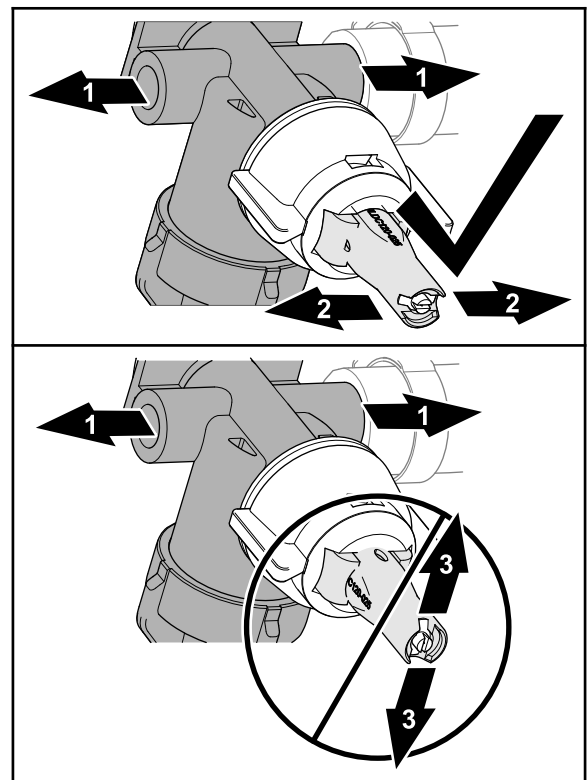

**Figure 53**
1. Rotate the nozzle cap 90° counterclockwise and remove the cap from the nozzle body (Figure 53).
2. Remove the sprayer tip and strainer from the nozzle body (Figure 53).
4. Assemble the strainer into the nozzle body (Figure 53).
5. Assemble the sprayer tip into the nozzle cap (Figure 53).
6. Install the tip and cap onto the nozzle body (Figure 53).
7. Rotate the nozzle cap 90° clockwise (Figure 53).